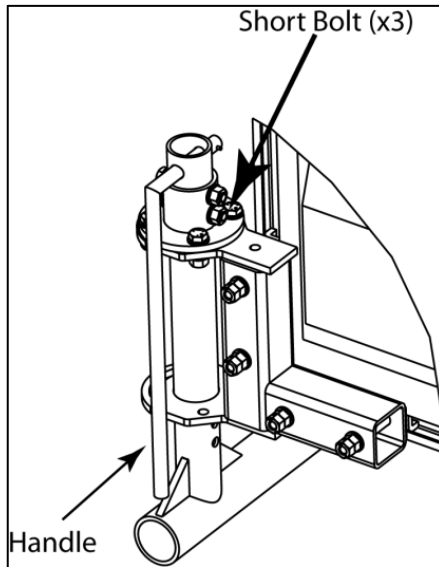

Figure 29: Elbow Assembly
1. To retract the webcam arm, remove the three short bolts from the top of the elbow assembly. Refer to **Figure 29**.